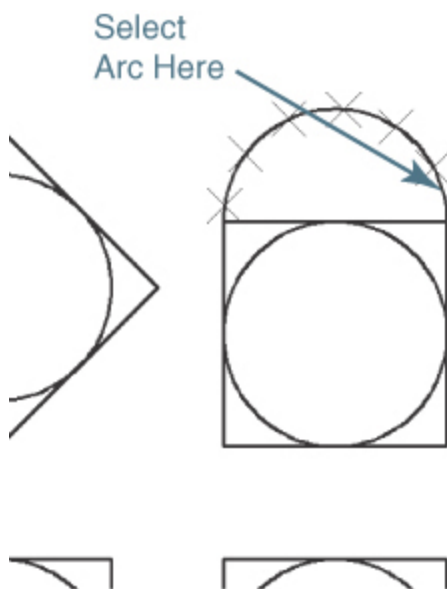

Figure 4-34
- 4 Select the arc on the top right of the drawing, as shown in Figure 4-34. AutoCAD prompts you to *Specify length of segment or ↓*.
- 5 Type **.5**<Enter>. AutoCAD places points every .5 unit along the arc starting at the end closest to where you picked. Your drawing should look similar to Figure 4-34.